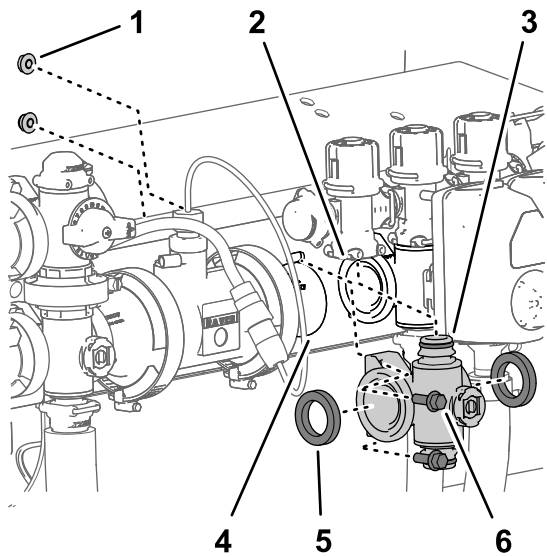

Figure 112
4. For left or right section-valve manifolds, remove the 2 flange-head bolts (1/4 x 3/4 inch) and 2 flange locknuts (1/4 inch) that secure the section-valve manifold to the valve support (Figure 112).
5. Move the section-valve manifold and gaskets down to clear the section-bypass valve and then away from the machine (Figure 112).